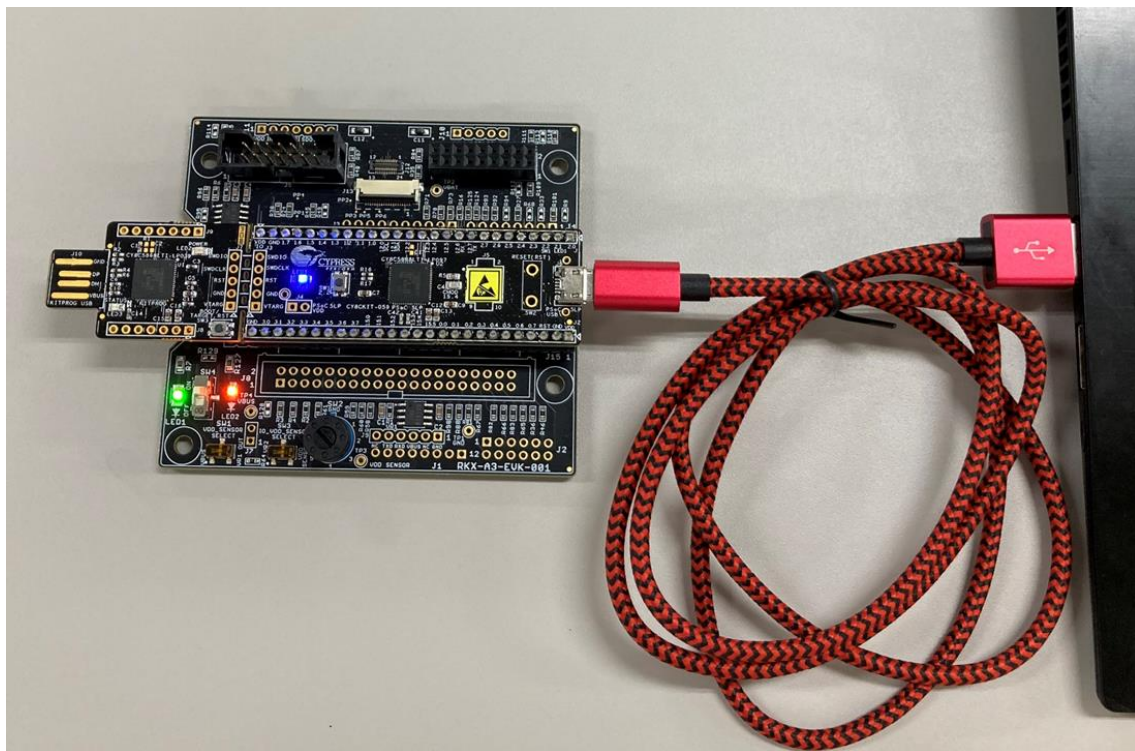

Figure 13. CY8CKIT-059 connected to PC
- Connect the Cypress CY8CKIT-059 Prototypic Kit to a computer using the provided microco-USB cable (Figure 13).
- ◆ Connect the ADC Evaluation Kit to the PC with the provided micro-USB cable (Figure 13).